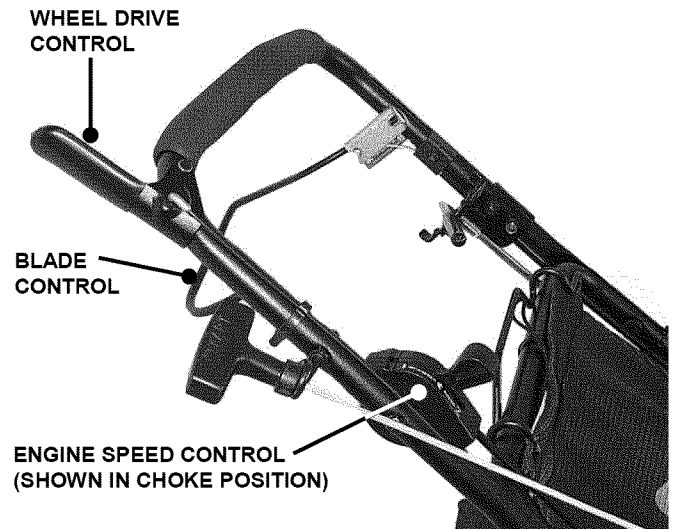
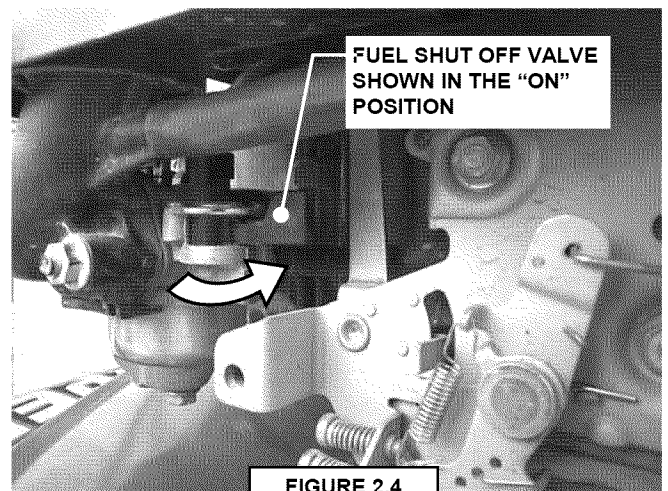

FIGURE 2.3
FIGURE 2.4
1. Turn fuel valve to on. See Figure 2.4. Move engine speed control to the "choke" position. The choke should not be required to restart a hot engine. See Figure 2.3.
4. After engine starts, move engine speed control away from the choke position to the "Fast" (Rabbit) position. See Figure 2.3.